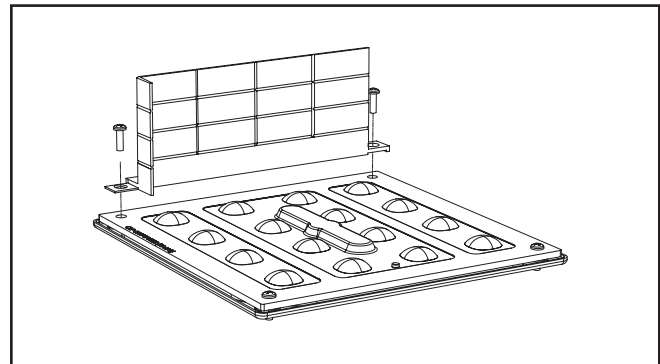

Figure 2.
3. Remove the trim ring and place the PFS shield over the light square where required. (FIG. 2)